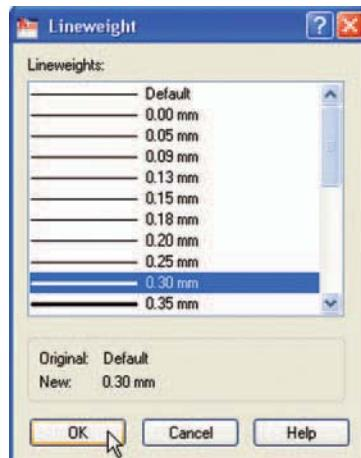

Fig. 4.19 The **Lineweight** dialog
7. Click on the any of the linewidths in the **Layer Properties Manager**. This brings up the **Lineweight** dialog (Fig. 4.19). Select the linewidth